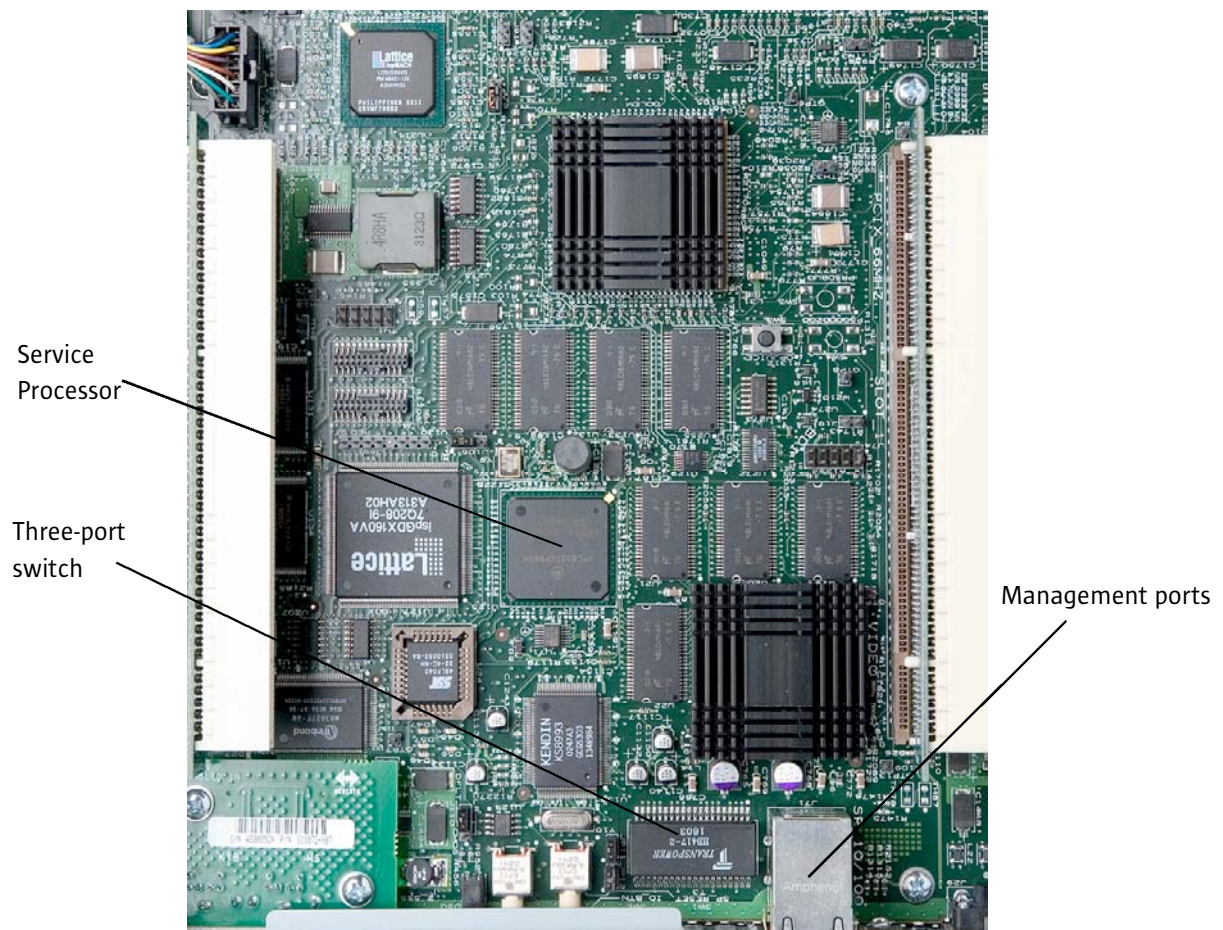

Figure 4-2. The Service Processor, three-port switch, and management ports on the Sun Fire V20z server
Figure 4-2 shows the location of the Service Processor on the Sun Fire V20z server, as well as the three-port switch and management ports. The chipset, called Service Processor (SP), runs embedded Linux on an integrated Motorola MPC855T PowerPC processor.